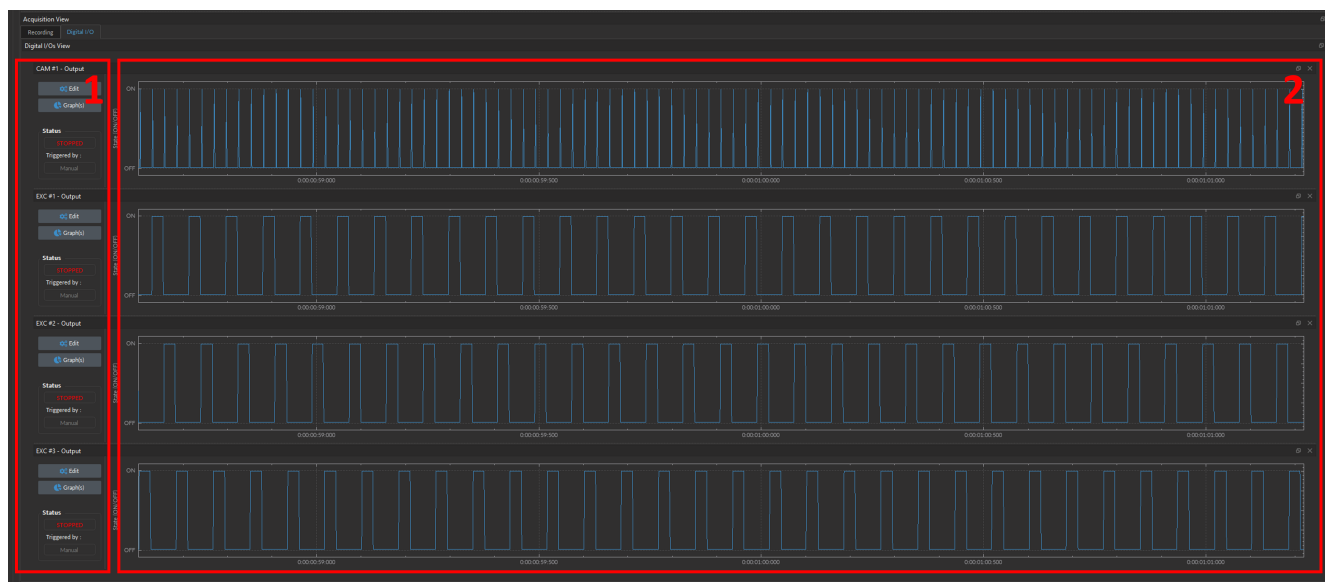

Figure 8.26: Graph(s) View
The **Graph(s) View** displays the active Digital channels. Each Digital I/O channel includes: (1) a **Control Box** (Fig. 8.26, 1), and (2) a **Graph** (Fig. 8.26, 2).
The **Digital I/O** traces are displayed in the **Graph** box (Fig. 8.26, 2). Each channel graph includes the following components: